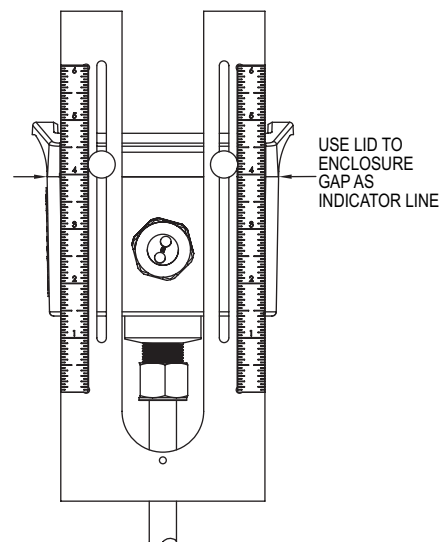

Figure 4
- To prepare the meter for installation, mount the provided alignment scale to the side of the meter with the two provided thumbscrews. The thumbscrews are to be inserted through the alignment scale slots and into the holes in the side of the lid as shown in Figure 4, finger tighten only. Be sure to orient the alignment scale as shown in figure below. Actual scale setting determined in next step.
2. Locate the configuration tag attached to the Series IEF to identify the value of the alignment scale setting. Position the alignment scale such that the scale setting is lined-up with the seam of the enclosure as shown in Figure 4. Minor scale marks are in 1/20ths. Securely tighten the thumbscrews.